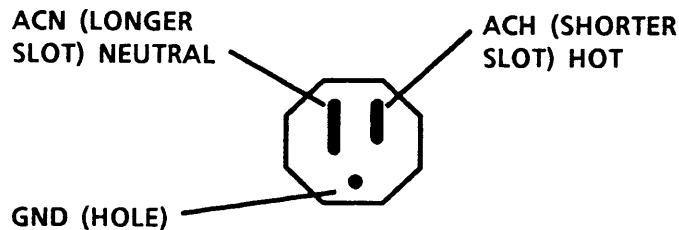

Figure 2-1 Wall Receptacle )
1. MEASURE AND VERIFY VOLTAGE AT WALL RECEPTACLE (FIGURE 2-1).